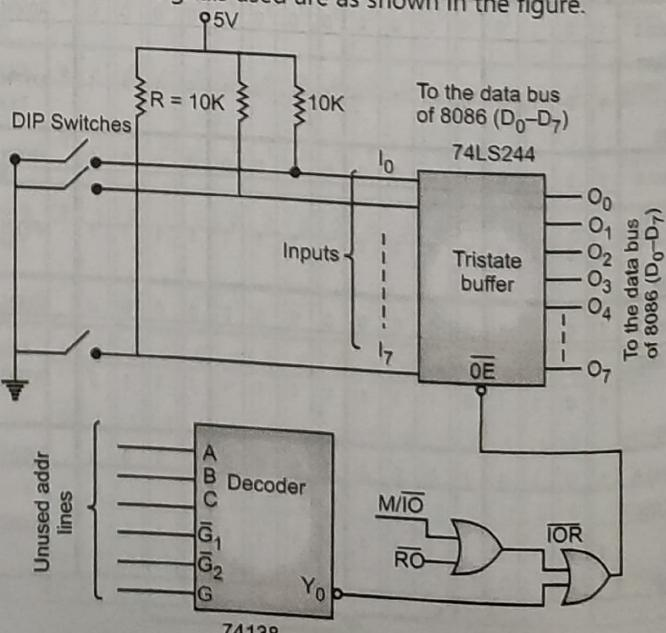

Fig. 5.4
The processor can accept 8-bit or 16-bit data on input port. The interfacing of the 8-bit port and 16-bit port can be as shown in the Fig. 5.4.
- The selection of the device is done by enabling the OE of the buffer connected to the device as shown in Fig. 5.4.
- For interfacing the ports the absolute decoding schemes can be used. In this all remaining address lines can be used for decoding as shown in the Fig. 5.4.